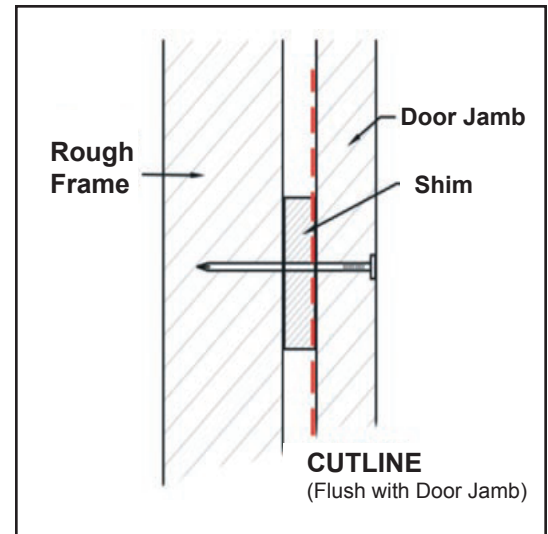

FIG. JS-02
- Using a saw with a metal cutting blade, preferably a handheld reciprocating saw, cut whatever attaching devices are currently attaching the door jamb to the rough frame (nails or screws). Screws can and should be unscrewed if the heads are visible. This will accommodate separation of the door jamb to the rough frame and allow the Jamb Shield to be placed around the door jamb with the long leg extending between the door jamb and rough frame. **It is extremely important that any attaching devices are cut flush with the door jamb (FIG. JS-02).** Failure to do so could hinder proper placement of the Jamb Shield. Any shims in this area will also have to be temporarily moved aside to allow the Jamb Shield to be put into position.